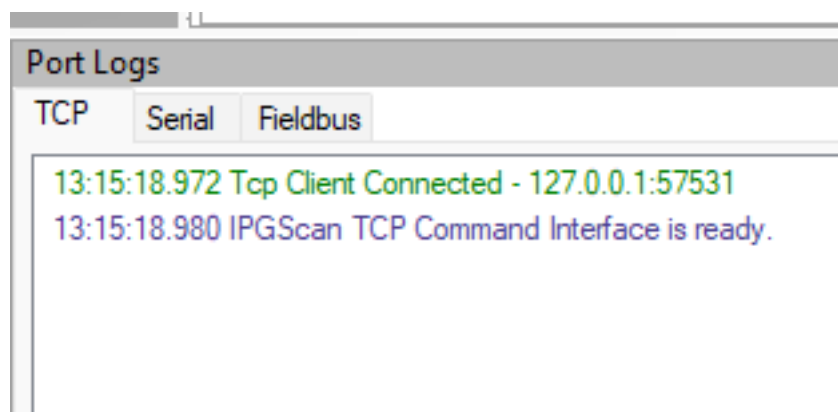

Figure 367: TCP Ready Message
- e. TCP Ready Message – When set "True," IPGScan will send the message, "IPGScan TCP Command Interface is ready" to the Port Logs Window to indicate that a connection is established with the Remote API. See Figure 367 (below).